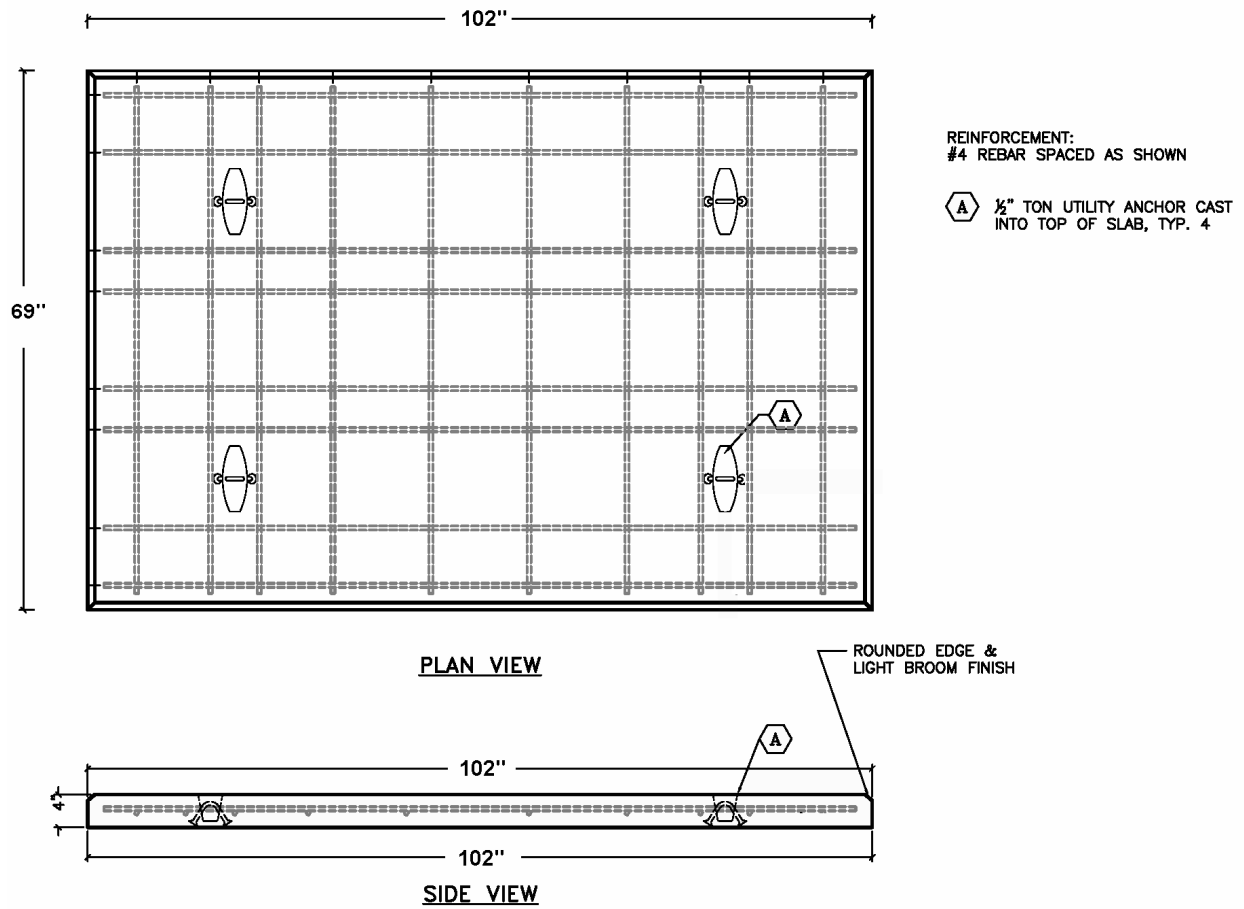

Figure 20 –Sample Precast Concrete Pad
- Figure 20 provides a sample drawing of a precast concrete pad.